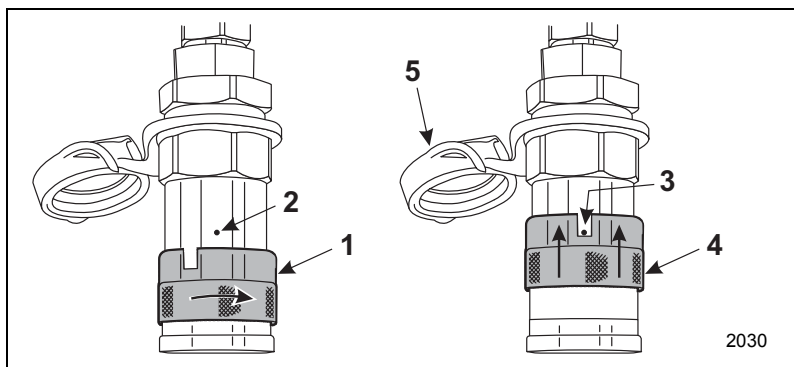

Figure 3–34 Quick Connect Locking Collar
7. Cover the hose connections with the dust caps (Item 5, Figure 3–34) and store the hydraulic hoses to prevent damage.